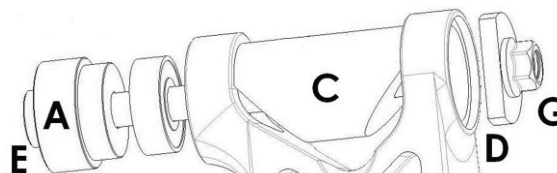

Fig. 7
3. To reassemble the lower link you will use the link support included in the Equilink tool kit. Install the bearings one at a time as shown in Fig. 7.